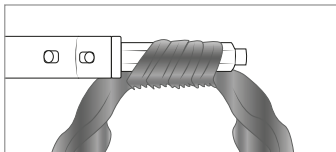

Fig. 5
- For more lift at the roots, apply the curling attachment horizontally (see Fig. 5).